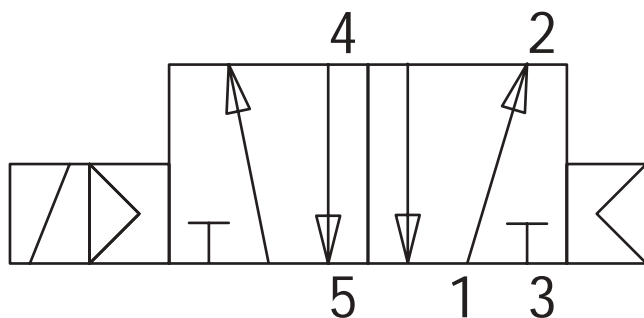
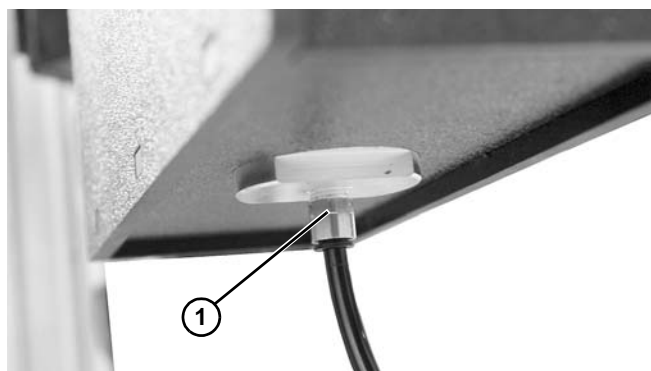
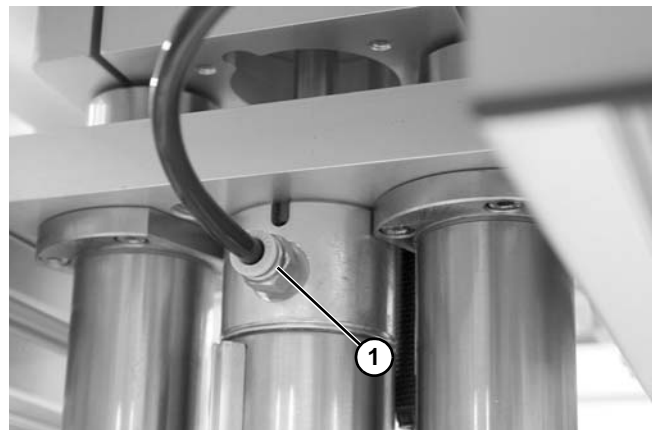

Figure 23
Figure 25
Figure 26
Dorner recommends using a 5 port, 2 way solenoid valve (**Figure 23**) to operate the Lift and Locate Pallet Unit.
3. Connect Port 4 (**Figure 23**) of the 5 port, 2 way solenoid to the lowest port (**Figure 25, item 1**) on the lift. Dorner fittings accept 1/4" outside diameter tubing standard.
4. Connect Port 2 (**Figure 23**) of the 5 port, 2 way solenoid to the upper port (**Figure 26, item 1**) on the lift. Dorner fittings accept 1/4" outside diameter tubing standard.